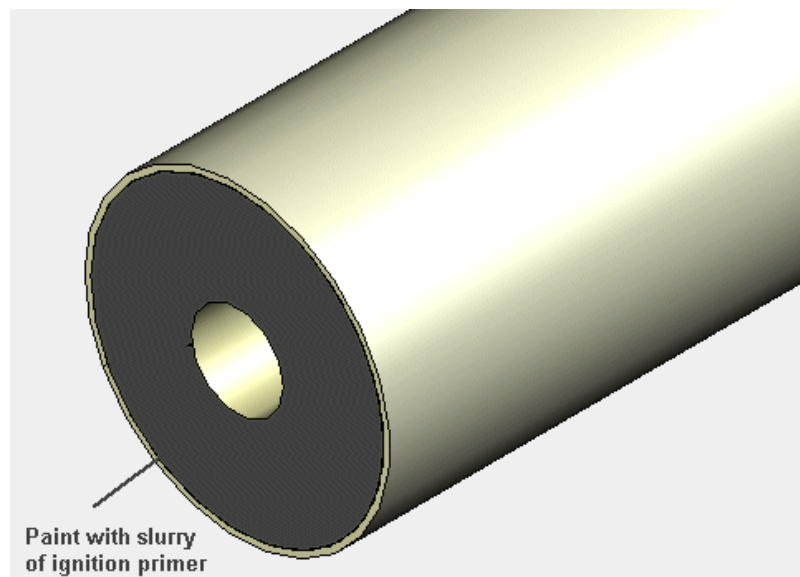

Figure 2 – Priming of propellant segments
1. Prepare Ignition Primer slurry (P9) and using small brush (T4) paint onto both ends of all 3 propellant grain segments, as shown in Figure 2.